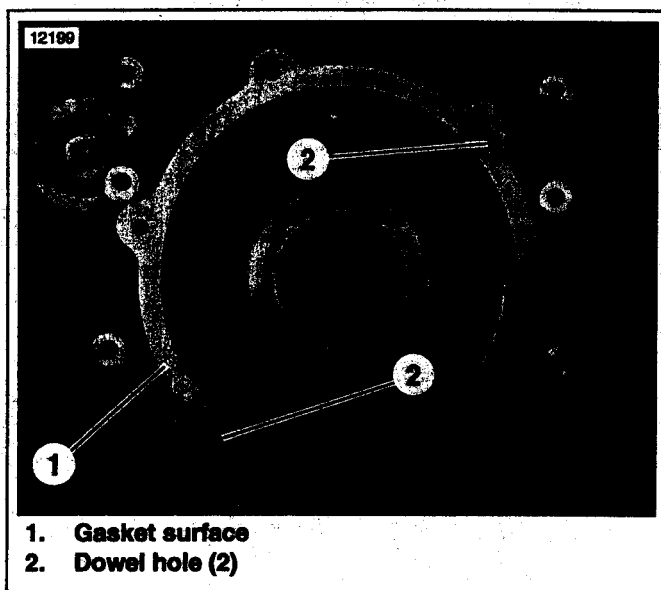

Figure 16. Crankcase
29. See Figure 16. Position new crankcase gasket (Part No. 34934-06 from recall parts kit) in place on gasket surface (1). Be sure dowels in gasket engage dowel holes (2) in crankcase.